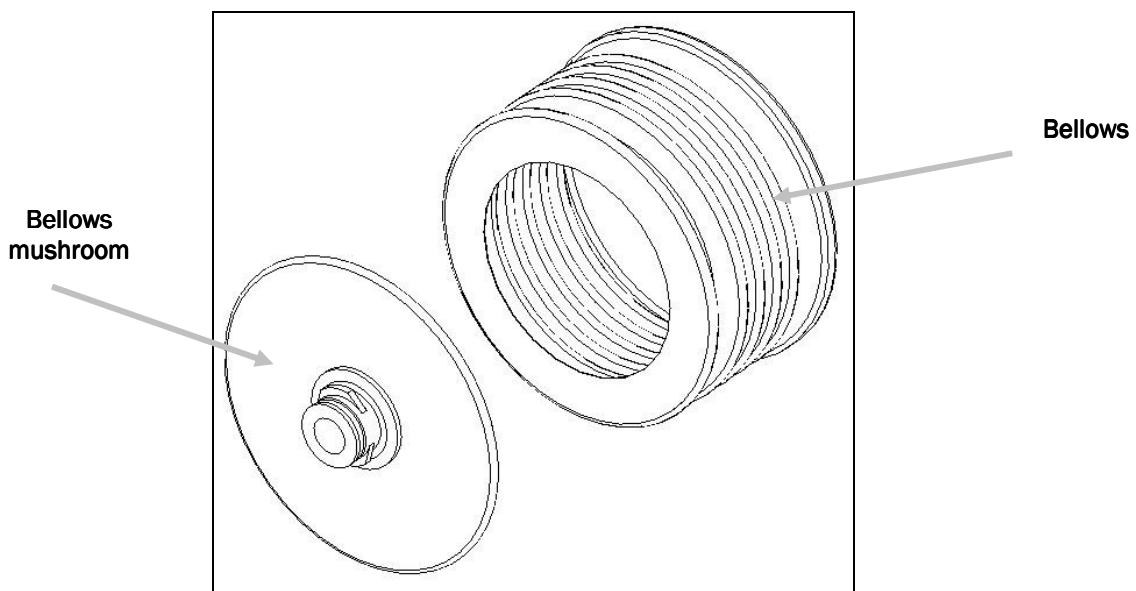

Figure 40: Bellows assembly with mushroom removed
4. The base disk (mushroom) should be removed from the bellows assembly before washing. Pull the latex-free rubber bag from the delrin base disk as shown in Figure 40. The bellows may be washed or autoclaved. The base component (mushroom) should not be autoclaved but can be put through a washer at 80°C.